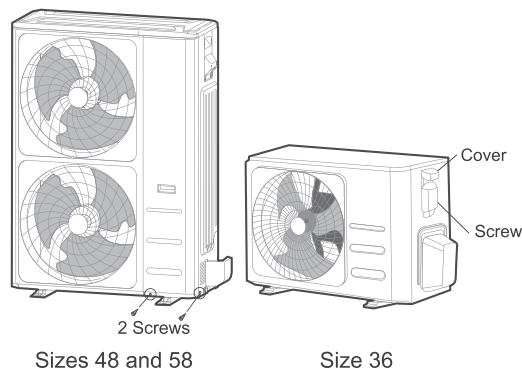

Fig. 27 —Remove Panels and Electrical Wiring Cover
2. Remove the 2 screws on the front and side panels. Take it down to perform wire connection. See Fig. 27.
Unscrew the electrical wiring cover and remove it. See Fig 27.